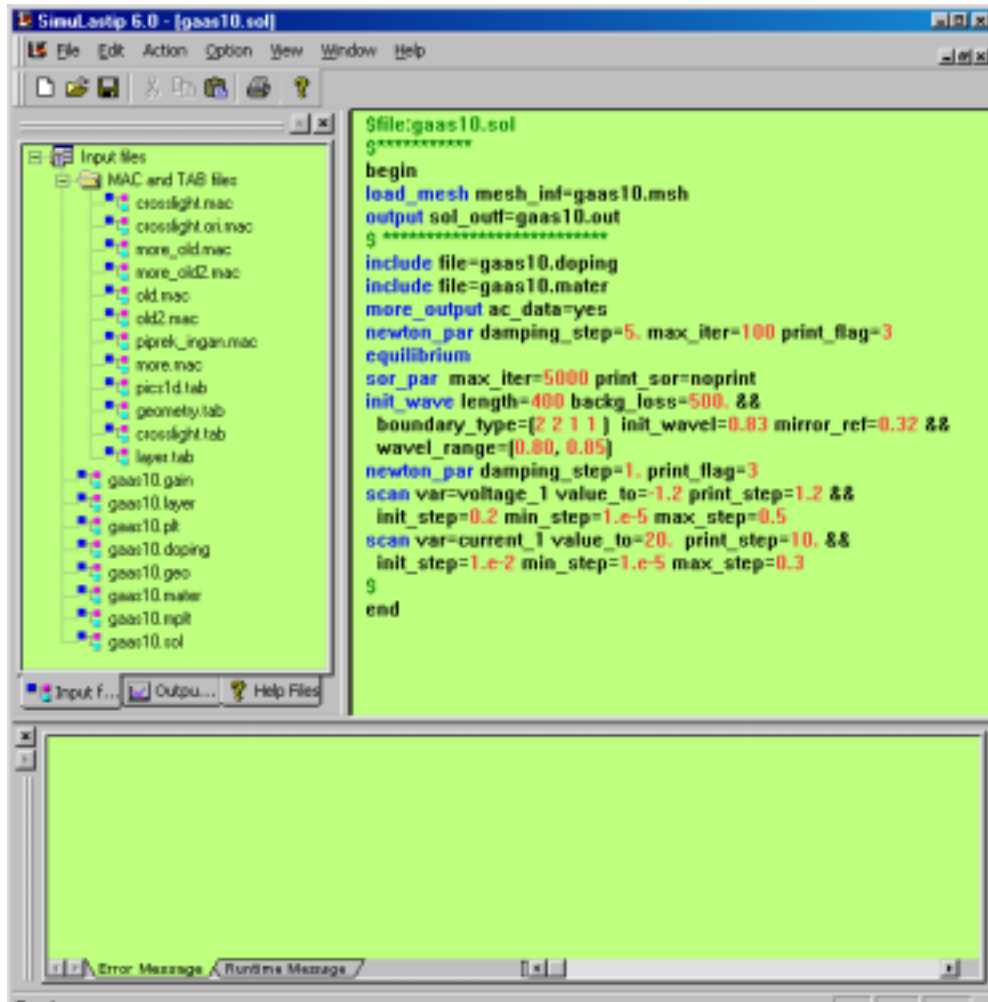

Fig. 3 SimuLastip user interface.
- (1) Activate SimuLastip. You can do this by simply choosing "SimuLastip" located in the LASTIP program folder (`c:\crosslig\lastip`). Once SimuLastip is open, choose "File" from the menu bar and scroll down to "Open Project". Go to the folder `C:\crosslig\lastip_examples\A_layered_LD`. You should see the files `gaas10.gain` and `gaas10.sol`. Select `gaas10.sol` and open it. You should see something like Fig. 3. It gives the main simulation file in the right-hand-side window and a list of all other files in the left-hand-side window. Double-click on `gaas10.layer` file to open it. The file contains the layer structure of this laser. Click on any of the blue commands and go to `Edit > Wizard (Ctrl-W)`. This will bring up the command editor which explains the command options in detail. As an advanced user, you could edit the input files now. For beginners, we skip this point. Click Cancel.